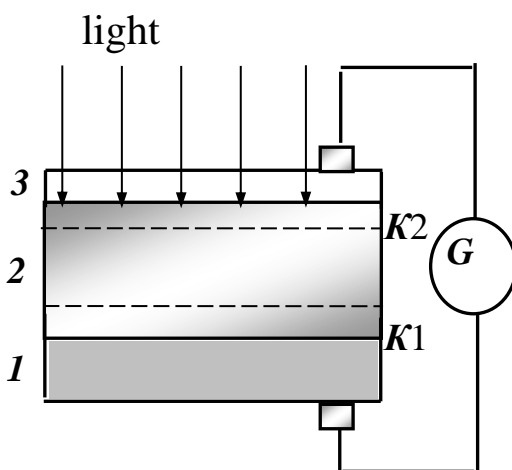

Fig. 6.3.1
Valve photoelectric cell consists of metal plate 1, surface of which covered by crystalline n-type semiconductor 2 (Fig. 6.3.1) with translucent protective layer (3) from the same metal. Between metal layers (1) and semiconductor n-type (2) forms M-m contact (metal-semiconductor) with locking layer.